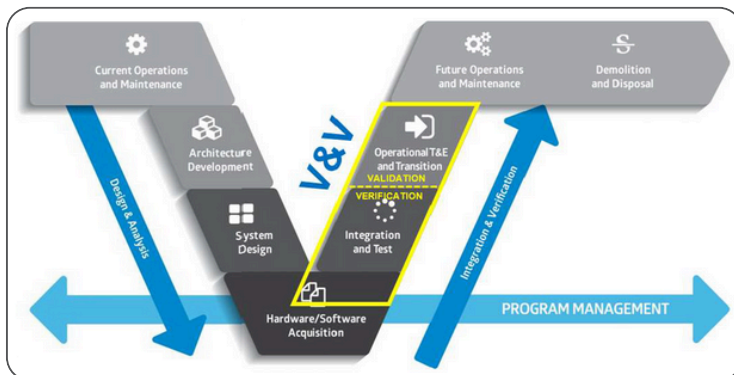

Figure 1. V&V on the Systems Engineering V-Model
Verification and Validation (V&V) are independent evaluation processes for determining a system's conformance to requirements and suitability for use. V&V occurs on the right side of the Systems Engineering (SE) V-Model, as shown in Figure 1.